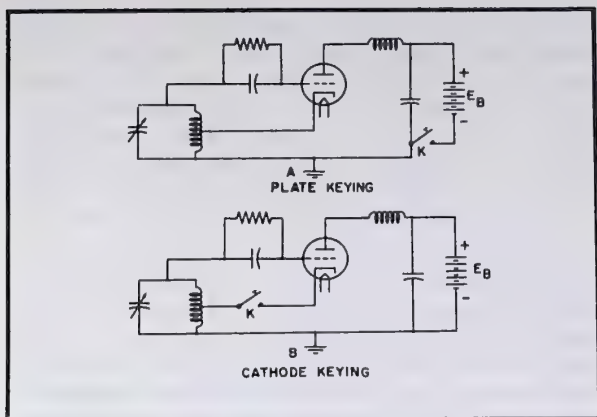

Fig. 4-2. Two methods of oscillator keying.
**Oscillator Keying.** Two methods of oscillator keying are shown in Fig. 4-2. In Fig. 4-2A, the grid circuit is closed at all times, and the key opens and closes the negative side of the plate circuit. This system is called *plate keying*. When the key is open, no plate current can flow and the circuit does not oscillate. In Fig. 4-2B, the cathode circuit is open when the key is open, and neither grid current nor plate current can flow. Both circuits are closed when the key is closed. This system is called *cathode keying*. Although the circuits of Fig. 4-2 may be used to key amplifiers, other keying methods are generally employed because of the larger values of plate current and voltage encountered.